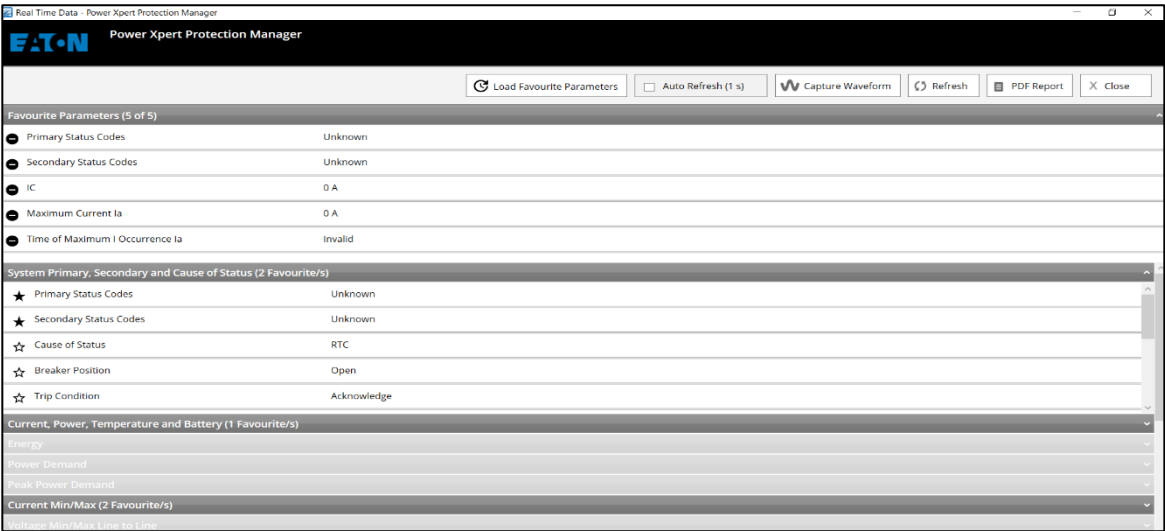

Figure 45: Real time data screen
The **Real Time Data** Screens (Figure 45: Real time data screen) provides information pertaining to all status and metered data from the PXR Trip unit. The user can expand each heading to view the nested data. The available data will be based on the specific connected trip unit. Not all parameters are supported in all PXR Trip Unit styles.
**Real Time Data** is now having a new **enhancement** where you can select **5 Favorite Parameters** from any of the buffers available by selecting the stars which are provided in front of parameter name, under each buffer. After selecting the favorite parameters, it will come under a new buffer named **Favourite Parameters**. (Shown in Figure 45: Real time data screen).
PXR trip units allow user to manually capture current and/or voltage waveforms. To do so, click **Capture Waveform** button shown in Figure 45: Real time data screen. PXR trip unit then captures a full cycle of waveforms and transfers them for display on the Power Xpert Protection Manager software.